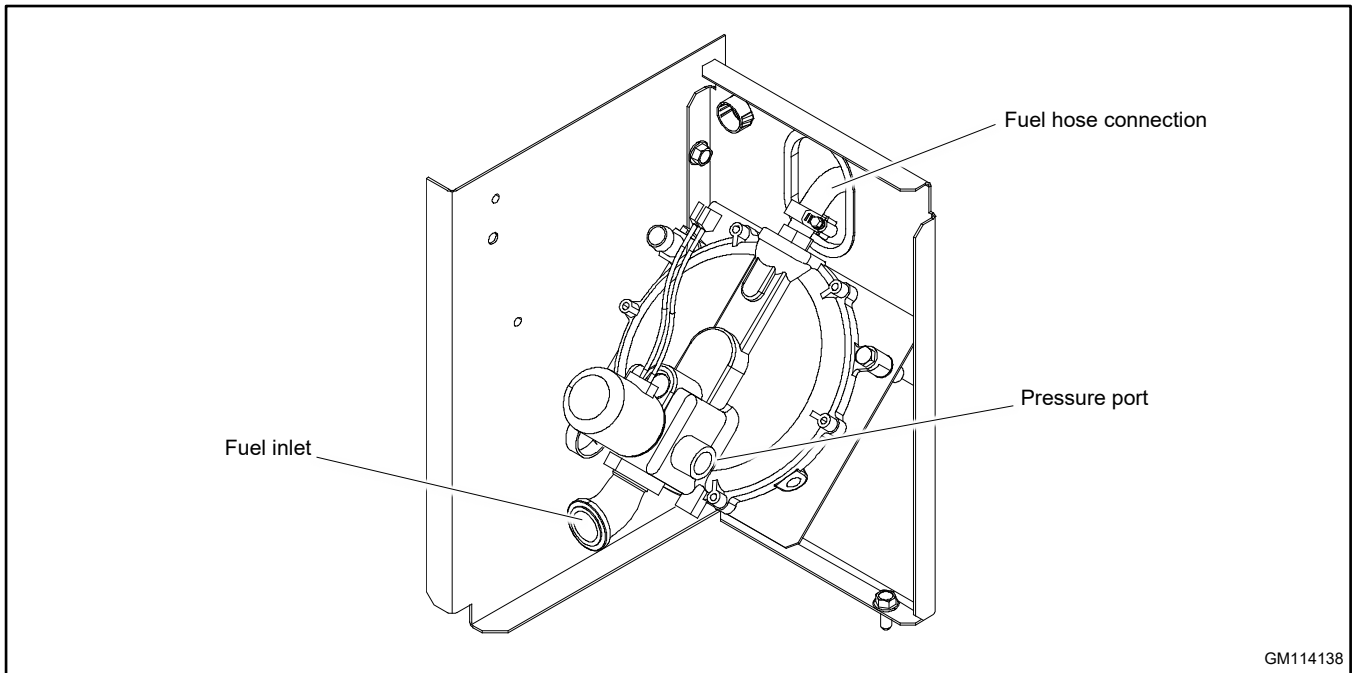

Figure 19 Revised Fuel System
5. Remove the hose clamp and fuel hose from the hose fitting. See Figure 19.
A pressure port is provided on the fuel regulator. See Figure 19. Follow these steps to check the fuel pressure at the regulator, if necessary.